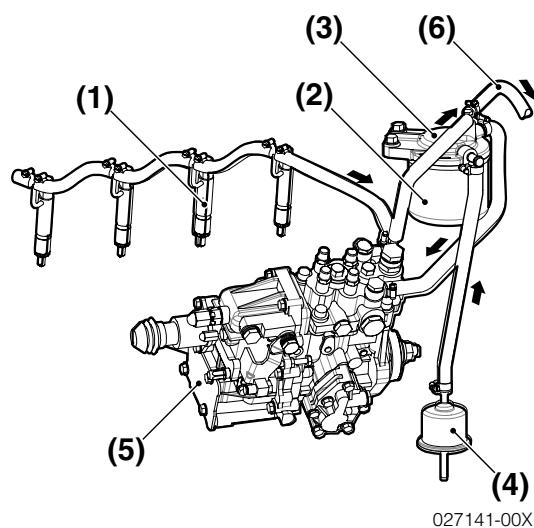

Figure 5
Figure 5 shows 4JH5E and 3JH5E is similar.
3. To bleed air from the fuel filter, loosen the hose clamp on the return side fuel hose (**Figure 5, (6)**) at the T-joint. Remove the hose.